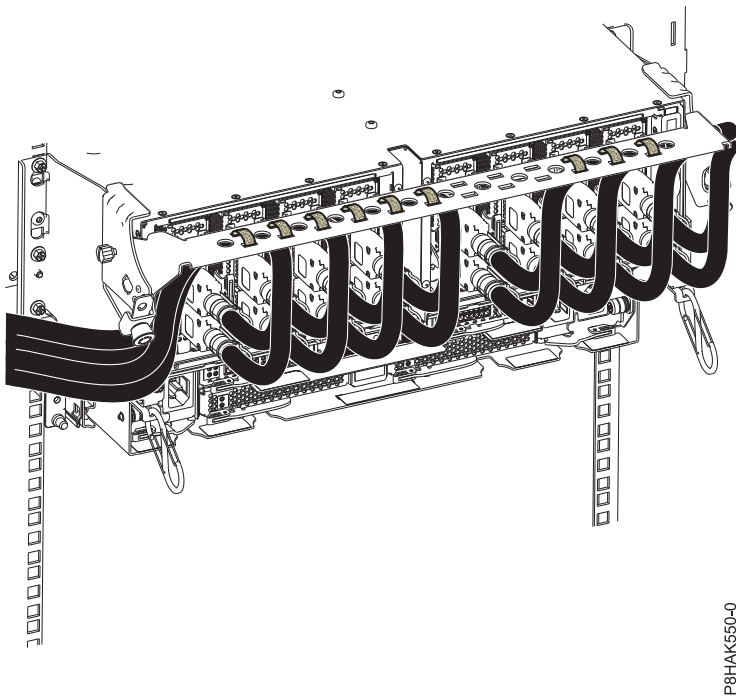

Figure 35. Routing the cables to the cable management bracket
5. Route the CXP, expansion drawer cables, and input/output (I/O) cables to the cable management bracket. See Figure 35 on page 34.
- f. Using hook-and-loop fasteners, route the bulk wire and cable fiber to the cable management bracket as shown in Figure 35 on page 34.